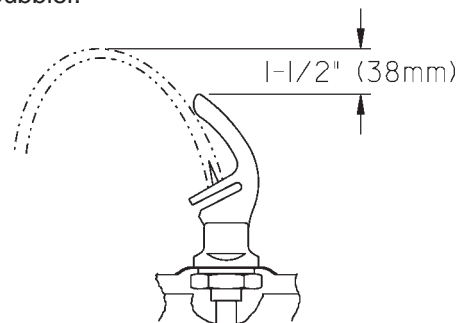

**FIG. 1**
9. Connect fountain to supply line with a shut-off valve and install a 3/8" unplated copper water line between the valve and the cooler. Remove any burrs from outside of water line. Push the tubes straight into the fittings until they reach a positive stop, approximately 3/4" (See Figs. 1 and 2). DO NOT SOLDER TUBE INSERTED INTO THE STRAINER AS DAMAGE TO THE O-RINGS MAY RESULT.
**Actuation of Quick Connect Water Fittings:** Fountain is provided with lead-free connectors which utilize an o-ring water seal. To remove tubing from the fitting, relieve water pressure, push in on the gray collar while pulling on the tubing. (See Fig. 1) To insert tubing, push tube straight into fitting until it reaches a positive stop, approximately 3/4".